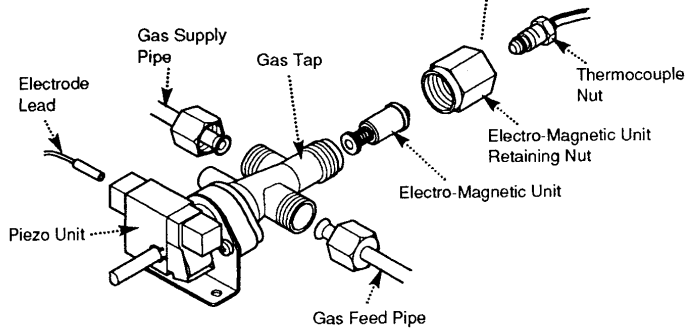

Fig. 60
10.9 Gas Tap and Piezo Unit (Fig. 60)
10.10 Electro-Magnetic Unit (Fig. 60)